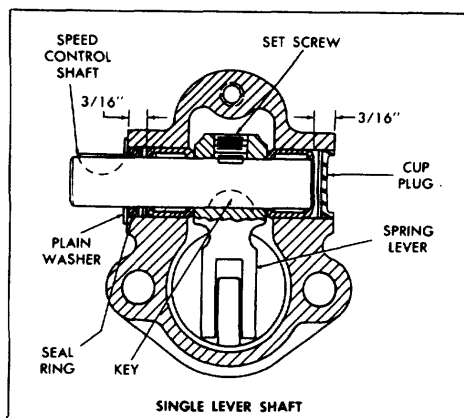

Fig. 12. Cross Section of Governor Variable Speed Spring Housing
1. Refer to Figs. 12 and 13. Lubricate the speed control lever shaft needle bearings with Shell Alvania No. 2 grease, or equivalent. Then start one of the bearings, numbered end up, straight in the bearing bore in the right-hand side of the spring housing.
6. Insert the correct end of the single lever type, speed control lever shaft through the bearing bore in the side of the spring housing, opposite the bearing previously installed (Fig. 12). Align the key in the shaft with the keyway in the spring lever, and push the shaft through the lever and in the bearing until the flat on the top of the shaft is centered under the set screw hole in the lever.
10. Apply a thin coat of sealing compound to the outside diameter of the cup plug. Start the cup plug straight in the bearing bore in the housing, then support the spring housing, bearings and shaft assembly on a sleeve on the bed of an arbor press, and press the cup plug in flush with the outside face of the housing (Fig. 12).
1. Refer to Fig. 12 and insert the small end of the spring plunger in the plunger guide. Insert the solid stop in the governor control housing.